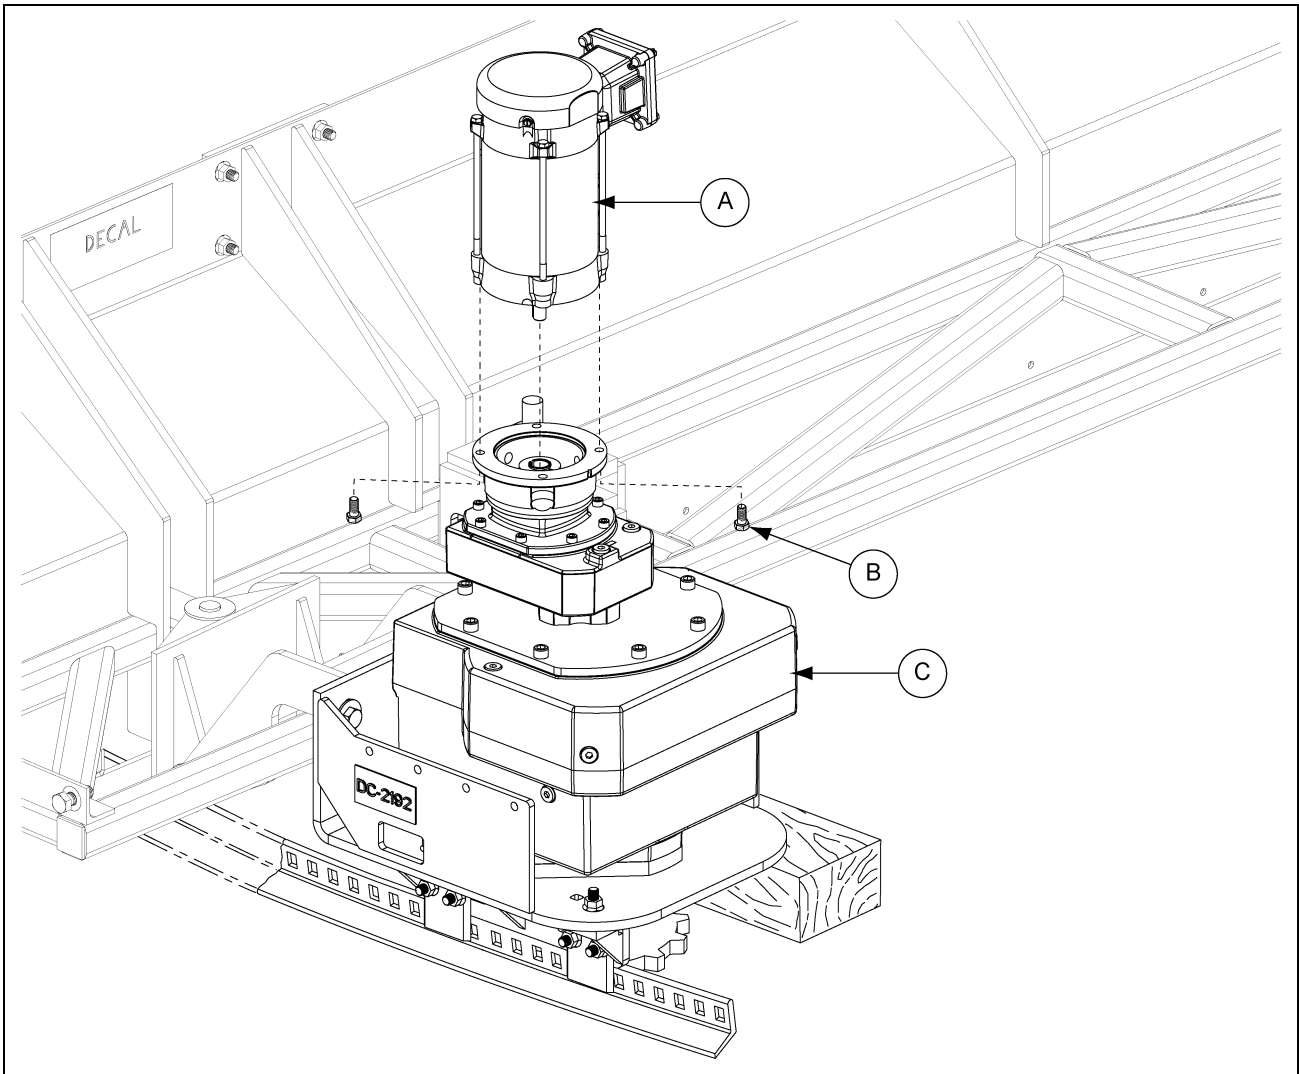

Figure 8H
1. Using the appropriate lifting device, carefully lift and install track drive motor (A) to gearbox (C) using hex bolts (B). (See Figure 8H.)